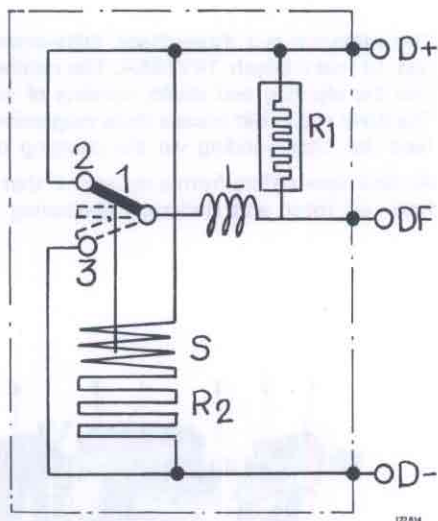

Fig. 32-5. Charging regulator internal wiring
It consists of a contact system which consists of 1, a movable contact, 2, a lower contact, 3, an upper contact, see Fig. 32-5.
When the rotor rotates, alternating current is formed in the rotor. Most of the current is rectified by the positive and negative diodes and the direct current produced is led via the alternator to the battery and a power consumer (consumers) if switched on. A small part of the current is rectified by the magnetizing diodes and is led via 61/D+ to the charging regulator and then onto the rotor winding. The cycle is repeated until the regulating voltage has been reached. When this has been reached, contact is broken between 1 and 2 on Fig. 32-5. This forces the magnetizing current to the rotor winding to pass resistance R_1 , Fig. 32-5. The voltage rises in spite of this, the armature is drawn further down in the voltage coil and the movable contact meets the upper contact (3), Fig. 32-5. This earths the field winding at both ends and the voltage drops. The cycle is repeated continuously so that voltage is maintained constant.